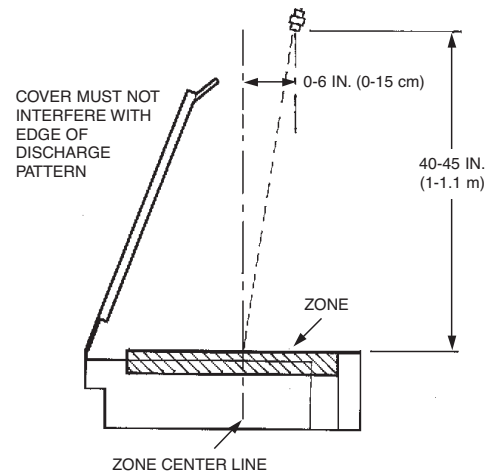

FIGURE 91a
* See Figure 91a for nozzle location